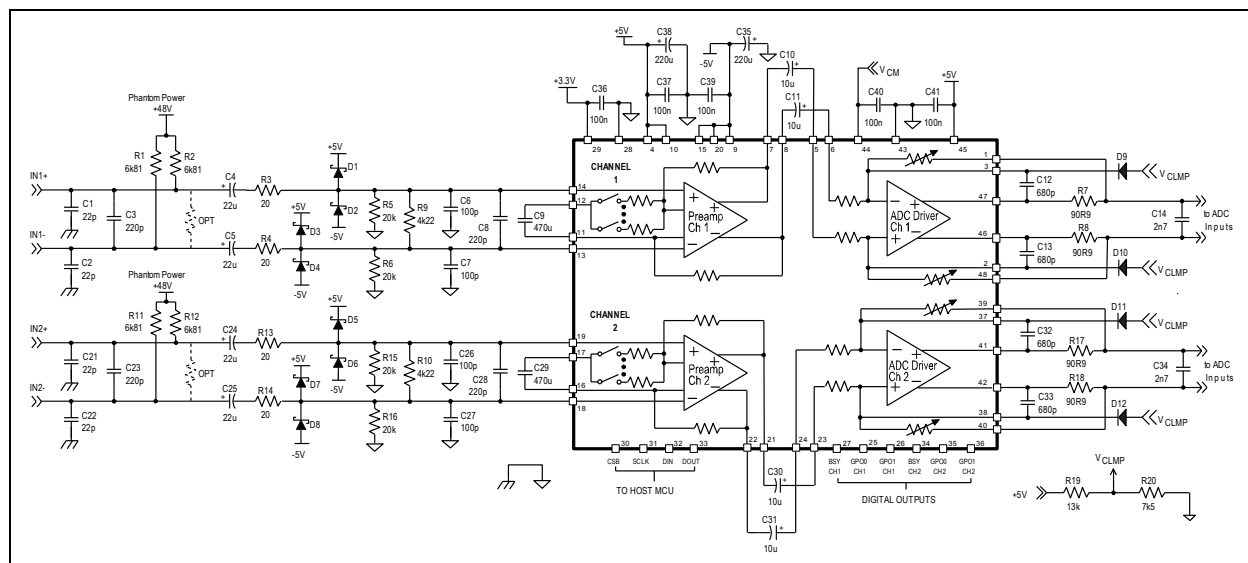

Figure 17. A typical bipolar-supply THAT 626x application circuit. See also Figure 18 for an alternative ADC anti-aliasing filter configuration.
Figure 17 is a typical 626x application circuit utilizing bipolar power supply rails. In this section, we discuss channel 1 in detail. However, all of the comments apply to the analogous components in channel 2.
The coupling capacitor (C9 in Figure 17, or CG in Figure 12) limits DC gain in the preamplifier to unity, regardless of the differential audio gain setting. The on-chip gain-setting R_G resistors in series with these capacitors vary with gain, which causes the cutoff frequency of the resulting high-pass filter also to vary with gain. This filter reaches its highest frequency at the minimum R_G (the highest gain), which is about 45 Ω (see Table 2). Hence, the highest cut-off frequency, with the 470 μF value shown in Figure 17 is ~ 7.5 Hz. Larger values will scale this frequency down proportionately. Since these capacitors, which are often physically large and stick up from the PCB, are effectively in series with the preamplifiers' inputs, they can serve as antennae to collect interfering signals. Take care to minimize possible sources of interference nearby that may be picked up by these large coupling capacitors.
The 626x ADC driver inputs (pins DI+_{CHx} and DI-_{CHx}) are capable of accommodating the full differential and common-mode signal range at the pre-amp outputs. However, the ADC driver’s fully-differential opamp inputs (brought out on pins CFB+_{CHx} and CFB-_{CHx}) have a common-mode input range of 1V to +5V. If this common-mode range is exceeded in the negative direction, the opamp’s inputs and outputs can get stuck close to ground. Diodes D9 and D10 in Figure 17 clamp the minimum voltage at the ADC driver opamp’s inputs to one diode drop below the voltage V_{CLMP} . For V_{CLMP} nominally +1.8V, the diodes ensure that the opamp’s inputs do not go below 1V above ground. This ensures that the ADC driver will accept the full 3.8V_p common-mode signal swing that can be present at the preamp outputs.
+5V) and ground. In Figure 17, this divider is made up of 13 k Ω and 7.5 k Ω resistors R19 and R20.
Phantom power is required for many condenser microphones. It is connected to the preamp inputs through resistors, R1 and R2, per +48V phantom power standards. THAT recommends the protection circuits as shown in Figure 17 when phantom power is included. R3 and R4 are to limit the current that flows through the preamp inputs during phantom power faults that can occur if one or both of the inputs are shorted to ground while phantom power is on. We recommend that R3 and R4 should be at least 20 Ω to limit destructive currents to under ~ 2.5 A. (Higher values provide more protection by further limiting current flow, but their additional source impedance adds noise.) The protection resistors used should be able to handle the short-term inrush current; many small surface-mount types cannot. With the values shown for C4 and C5, we recommend at least ¼ W resistors.
Figure 17) when C4 and C5 are as shown at 22 μ F. The large 220 μ F capacitor absorbs the charge dumped by C4 and/or C5, and keeps the -5 V rail from being pulled excessively negative, which could damage the 626x. If larger values are employed for C4 and C5, then C35 and C38 should be increased proportionately.
The most common anti-aliasing filter configuration for driving audio ADCs is shown in Figure 17. Capacitors C12 ~ C14, resistors R7 and R8, and the internal feedback resistors of the ADC driver form a second-order lowpass filter. Since R7 and R8 are inside the amplifier's feedback loop, the closed-loop output impedance remains quite low inside the audio band, but they still serve to isolate the ADC driver's output from the high-frequency charging currents for the typical ADC's switched-capacitor inputs. C14 should be placed physically close to the ADC input pins.
As noted above, in the 6261, the ADC driver's internal feedback resistors vary, which will have a small effect on the overall filter response. The frequency response for the -8 dB case is -3 dB at 560 kHz and -48 dB at 6.144 MHz. The response of the -5 dB case is -3 dB at 419 kHz and -51 dB at 6.144 MHz. As with the filter shown in Figure 17, for
As shown in Figure 17, THAT recommends a 100nF capacitor to ground on all the supply rails plus the VCM reference (pin 44) for high frequency noise filtering. For best effectiveness, place each 100nF capacitor close to its associated pin in the PCB layout. For rails with multiple pins, e.g., V_{A-} and V_{A+} , only a single 100nF capacitor is needed per supply; connect the capacitors near pins 9 and 10.
- Delete clamp diodes D9 and D10 and the V_{CLMP} voltage divider R19 and R20 (from Figure 17) as these are not required for unipolar operation.
Further, the DC level of the preamplifier output is one V_{BE} below +5V Filt (thus about +4.3 V), while the ADC driver input’s DC level is at V_{CM} (nominally +3.1 V). Hence, the ac-coupling capacitors between the preamp and ADC driver stages (C10 and C11) are reversed in polarity from those in Figure 17. We recommend these capacitors be rated at least 3.3 V.
Because the ADC driver V_{cm} voltage is set to +3.1V for unipolar applications, the full common-mode swing output swing from the preamp cannot force the ADC driver opamp inputs below the minimum allowable level. Hence, diodes D9 and D10 (and the associated voltage divider) as in Figure 17 are not needed when the 626x is powered by unipolar supplies.